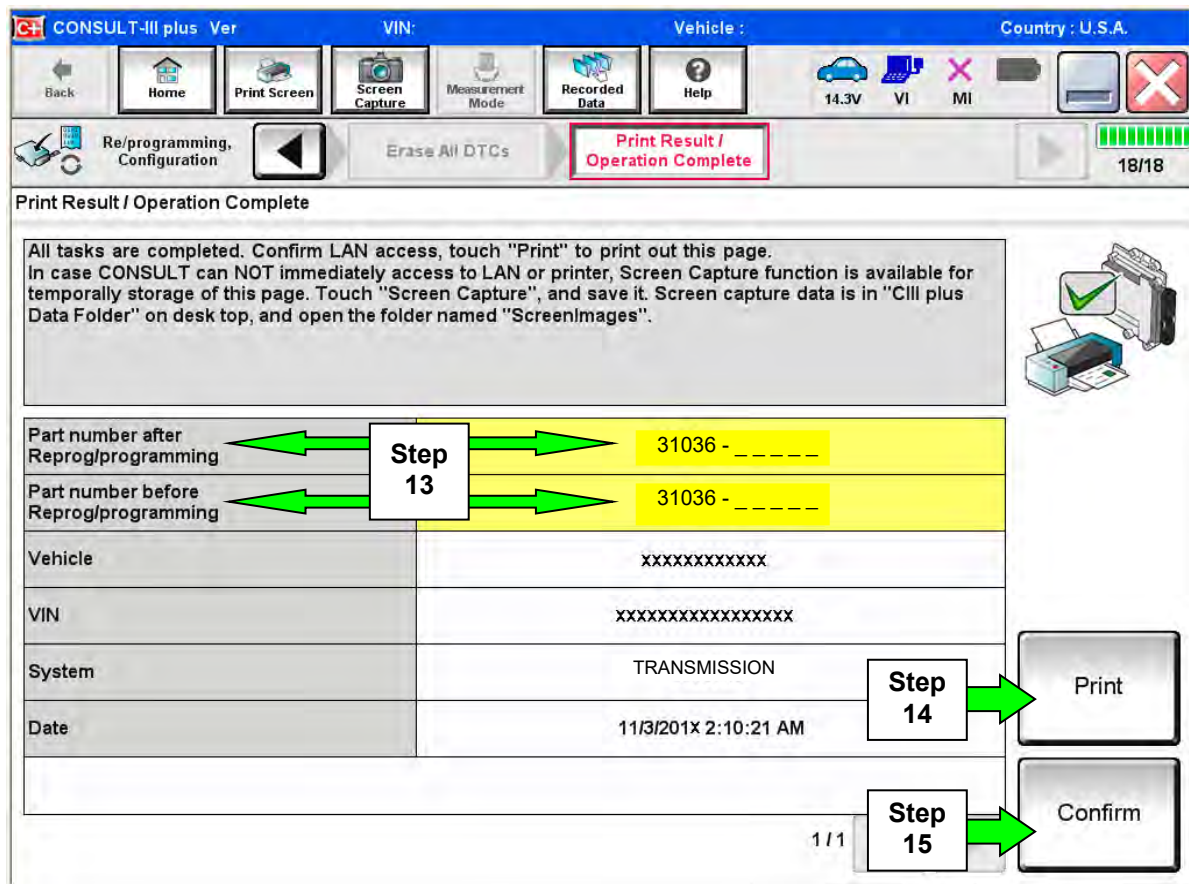

Figure 8K
12. When the entire reprogramming process is complete, the screen in Figure 8K will display.
14. Print a copy of this screen (Figure 8K) and attach it to the repair order for warranty documentation.